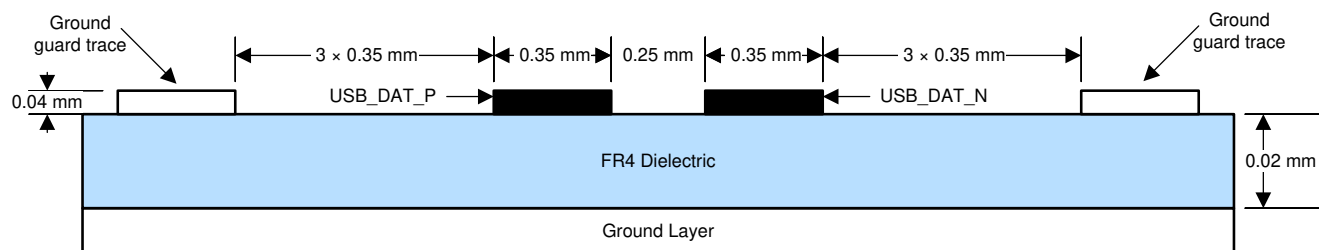

Figure 9-13. USB Layout Example
- (1) If using the minimum trace width and spacing to escape the Controller ball field, widening these out after escape is desirable if practical to achieve the target 100 Ω impedance (e.g. to reduce transmission line losses).
- (2) One pcb layout example for the differential pair is shown in Figure 9-13